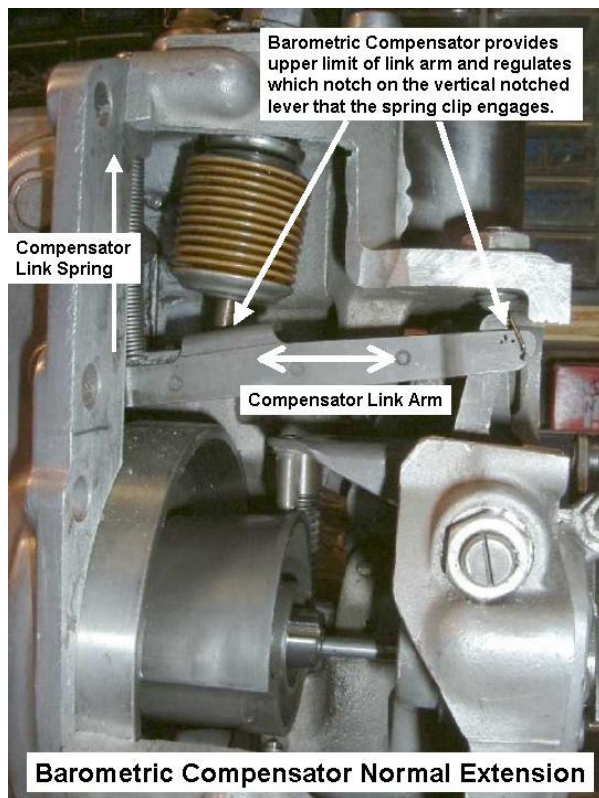

Fig 14. Barometric Compensator Normal Extension
**Failed Barometric Compensator.** This is very uncommon. The Barometric Compensator is a sealed bellows unit that expands or contracts with absolute atmospheric pressure, thus enriching or leaning the mixture for optimum performance. If this bellows loses its seal, there is a spring inside that will expand the bellows from a normal approximately 27mm to about 40mm. See Figs 14 & 15. The appearance change will be very obvious. The unit will look very extended. When this happens the greatly expanded Barometric Compensator will reset the compensator arm link very far down and greatly lean the mixture (like the engine was trying to operate at a VERY high altitude). It will likely lean the mixture to the point of stopping the engine.